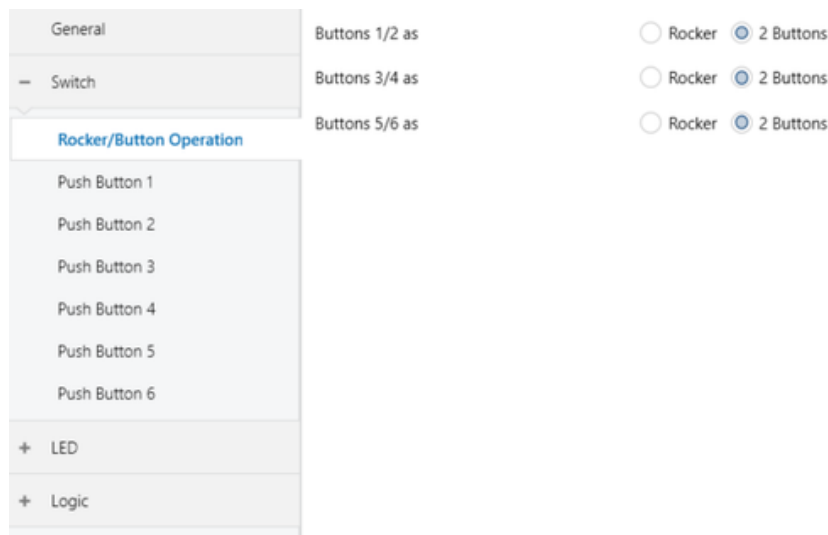

Figure 2
- 2 Buttons: Two separate pages are shown for the pair, as shown in Figure 2.